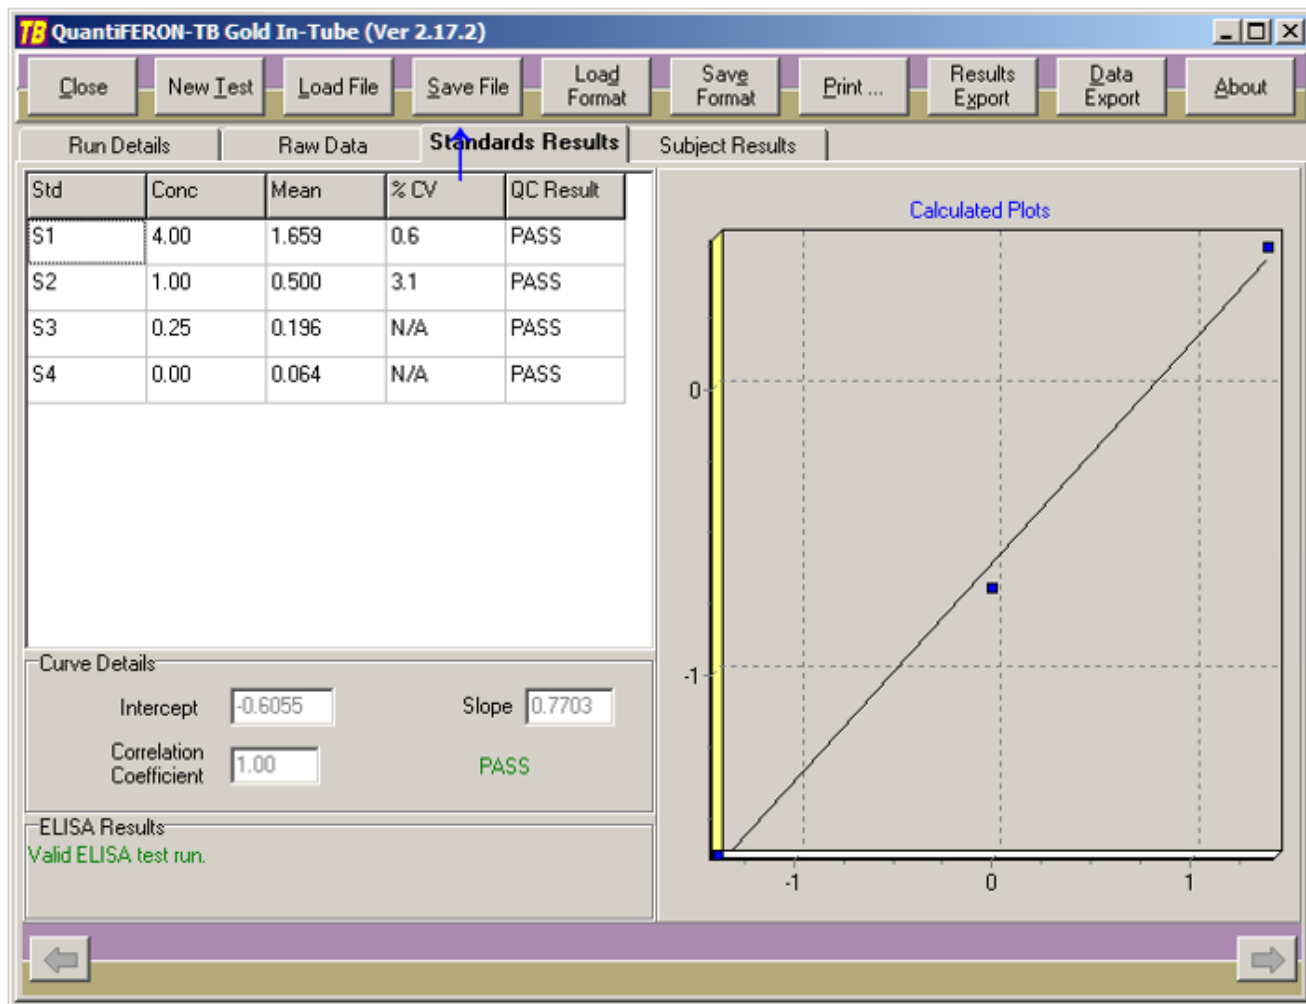

Figure 5
- 8) The results of the Quality Control acceptance criteria will be shown as PASS or FAIL. If any of the QC criteria are not met, the ELISA test is invalid and must be repeated (see package insert for further details of the acceptance criteria). Select the Save File button (Figure 5 ↑) to Save File as .qdf file. Use the following nomenclature “mmddy QFTB- initials”.
10) Select the print button (Figure 6 ↑) to generate a report hard copy, then select Save File (Figure 5 ↑) (save as .pdf file). Use the following nomenclature "mmddy QFTB- initials".